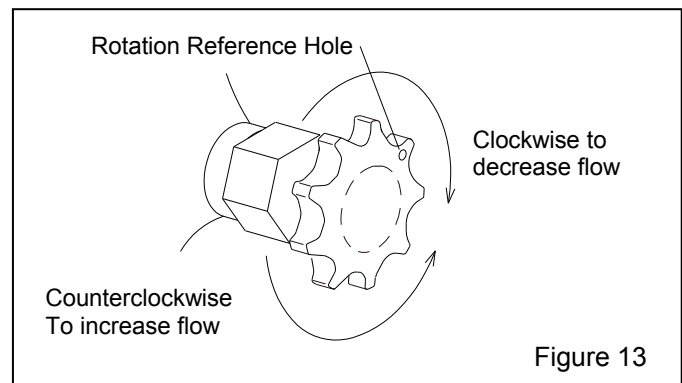

Figure 13
4.1 Abrasive Metering, Figure 13.